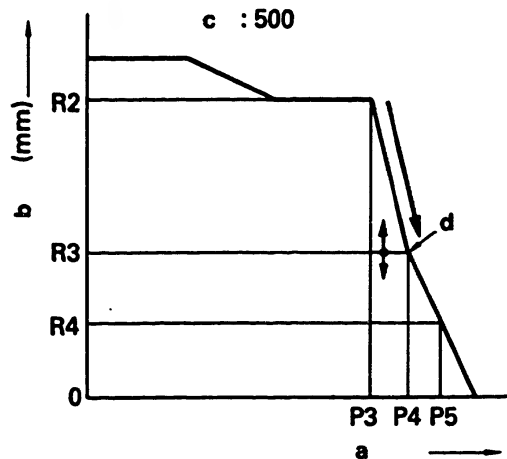

Fig. 66
1. Maintaining negative pressure at P_4 , fit the idling spring capsule (18) and fix the control rack in position R_3 using locknut (21). (Figs. 66 and 67)